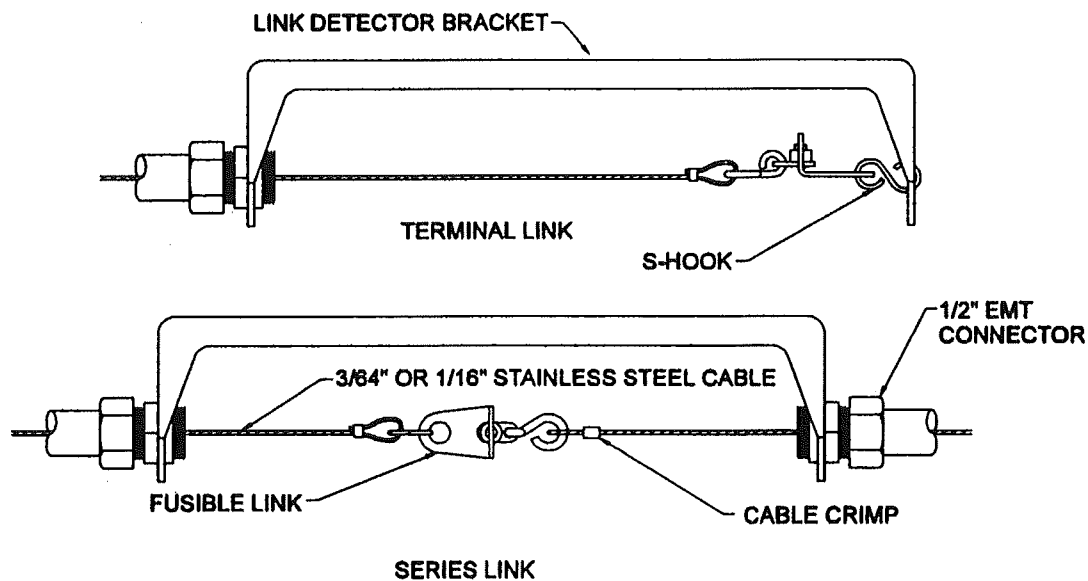

Figure 2-9. Model FLK-1 Fusible Link
The Model FLK-1 fusible link kit includes a 10" steel bracket, two (2) 1/2" EMT connectors, four (4) cable crimps, and two (2) "S" hooks. Fusible links must be ordered separately. See **Figure 2-9**.